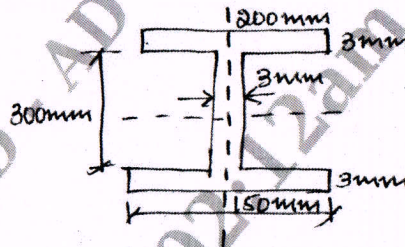

Fig.Q2(a)
- 2 a. Define shape factor and determine the plastic and section modulus of a built up section as shown in Fig.Q2(a).